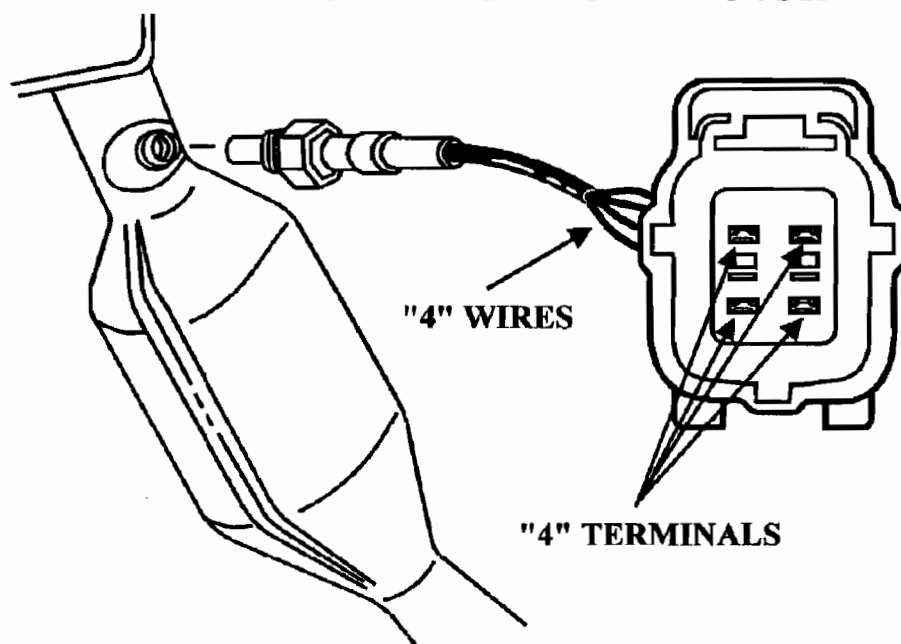

Figure 2
CORRECTION: This problem can avoided by ensuring that both female and male harness connectors have the same amount of wires. Refer to Figure 1 for Turbine Speed Sensor location. Refer to Figure 2 for 3 pin Turbine Speed Sensor and 4 pin Heated Oxygen Sensor connector identification.
- (1) **TRANSAXLE CASE** - Added passage in transaxle case to allow free flow of oil between the transaxle and the differential. Refer to Figure 2.